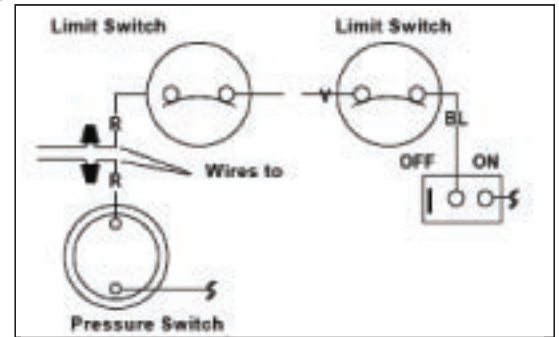

Figure 3-18 — Wiring with [what??]
3. Connect two #14 gauge wires, designed for use in hot environments, to the two red wires. (See Figure 3-18.)